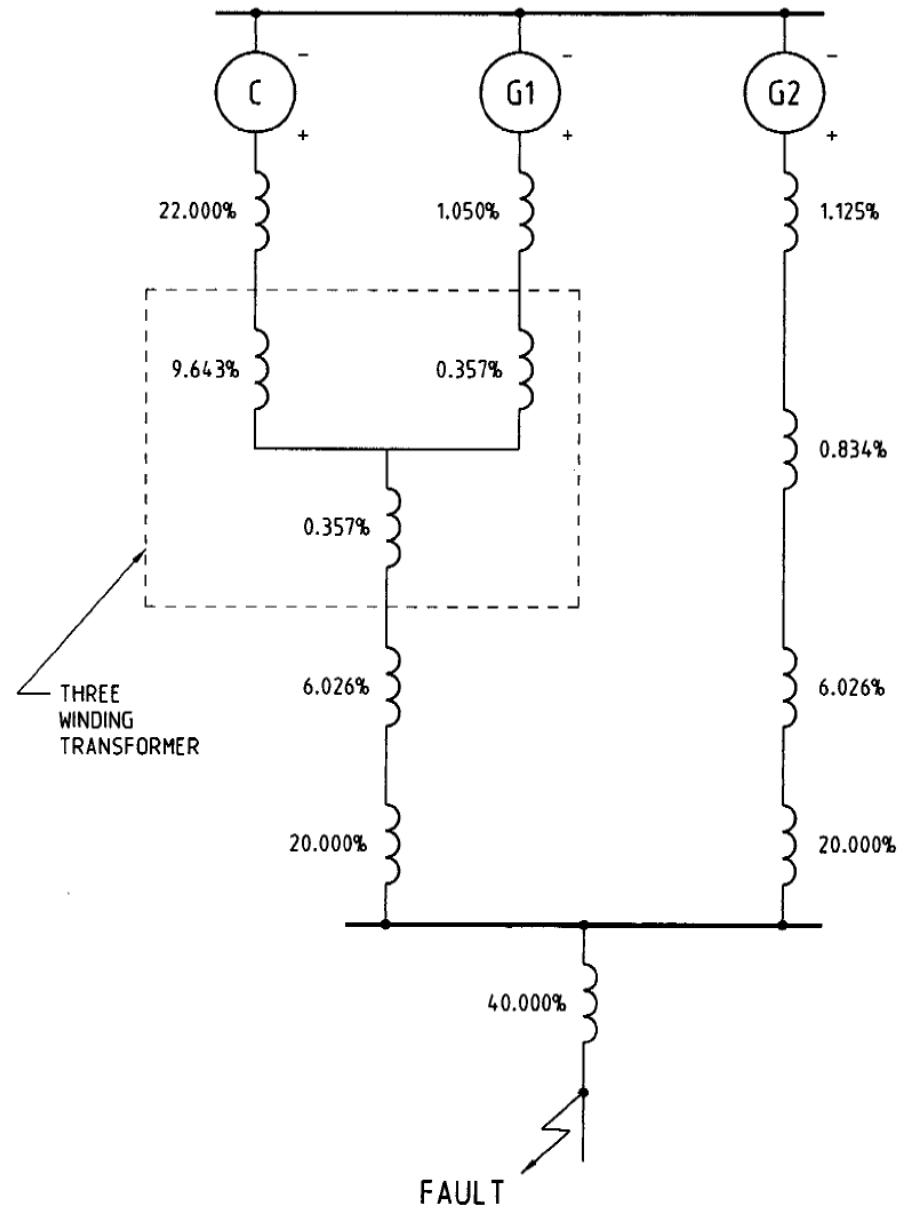

Figure 4
Positive Phase Sequence (PPS), Negative Phase Sequence (NPS), and Zero Phase Sequence Networks (ZPS) are presented in Figures 4, 5, and 6, on pages 6, 7 and 9 respectively.
1. Positive Phase Sequence Impedance Network Reduction (Refer Figure 4)